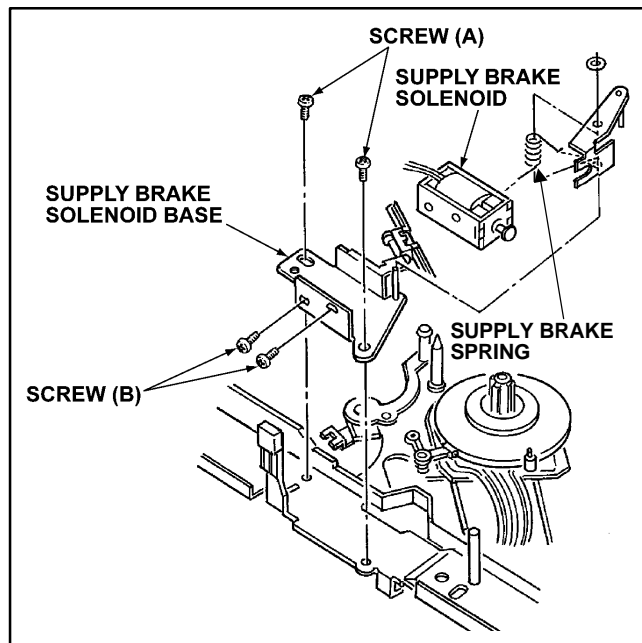

Figure. 1-8-1
1. Disconnect the **connector (A)** on the **P.C.Board (B)**. (Refer to above chart.)
2. Unscrew the 2 screws (A) and remove the Supply Brake Solenoid Base Unit as shown in Figure 1-8-1.
3. Unscrew the 2 screws (B) and remove the supply Brake Solenoid from Supply Brake Solenoid Base Unit as shown in Figure 1-8-1.
Hang on the Brake Arm Spring as shown in Figure 1-8-1.